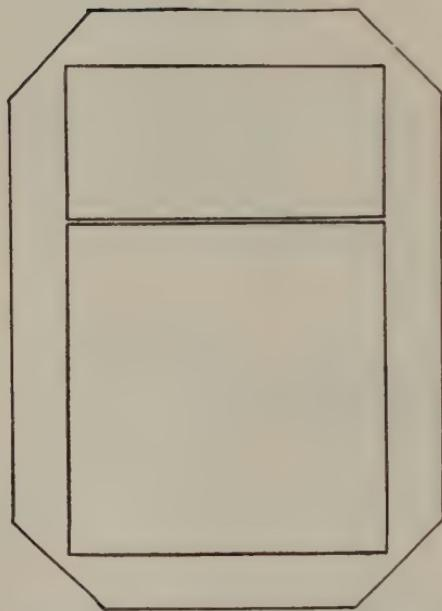

FIG. 74—EASEL BOARDS LAID ON
- Next we must prepare the easel. Take the large piece of paper $5\frac{7}{8}'' \times 8\frac{1}{8}''$, lay it face downward on a piece of newspaper, glue off the back and lay your two easel boards on the glued surface. (Fig. 74.)